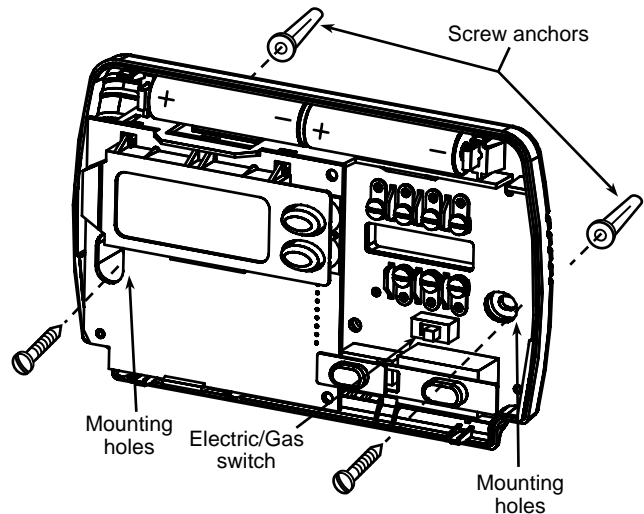

Figure 1. Thermostat Base
This thermostat is configured from the factory to operate a heat/cool, fossil fuel (gas, oil, etc.), forced air system. It is configured correctly for any system that DOES NOT require the thermostat to energize the fan on a call for heat. If your system is an electric heat or heat-pump system that REQUIRES the thermostat to turn on the fan on a call for heat, locate the **GAS/ELECTRIC switch** on the back of the thermostat (see fig. 1) and switch it to the **ELECTRIC** position. This will allow the thermostat to energize the fan immediately on a call for heat. If you are unsure if the heating/cooling system requires the thermostat to control the fan, contact a qualified heating and air conditioning service person.
5. Fasten base loosely to wall, as shown in fig. 1, using two mounting screws. Place a level against bottom of base, adjust until level, and then tighten screws. (Leveling is for appearance only and will not affect thermostat operation.) If you are using existing mounting holes, or if holes drilled are too large and do not allow you to tighten base snugly, use plastic screw anchors to secure subbase.
If LO BATTERY is displayed, the batteries are low and should be replaced with fresh "AA" Energizer® alkaline batteries. To replace batteries, install the batteries along the top of the base (see Fig. 1). The batteries must be installed with the positive (+) end to the left.